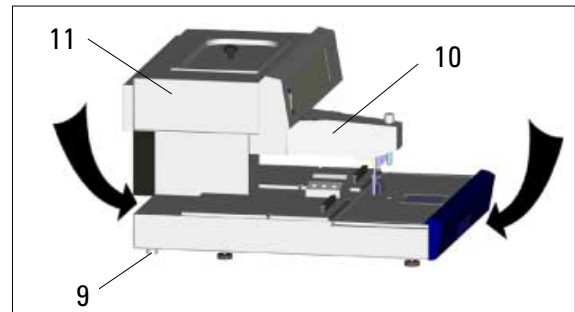

Fig. 4
- To lift up the instrument (6), hold it at the front and rear of the base plate (Fig. 4) and lift it from the foam padding (8).